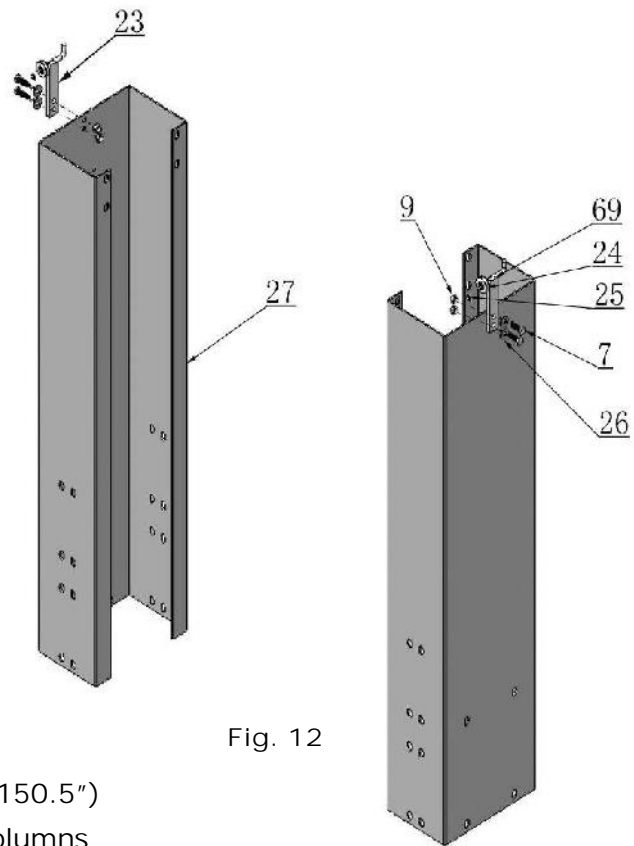

Fig. 12
D. Install parts of extension columns (See Fig. 12).